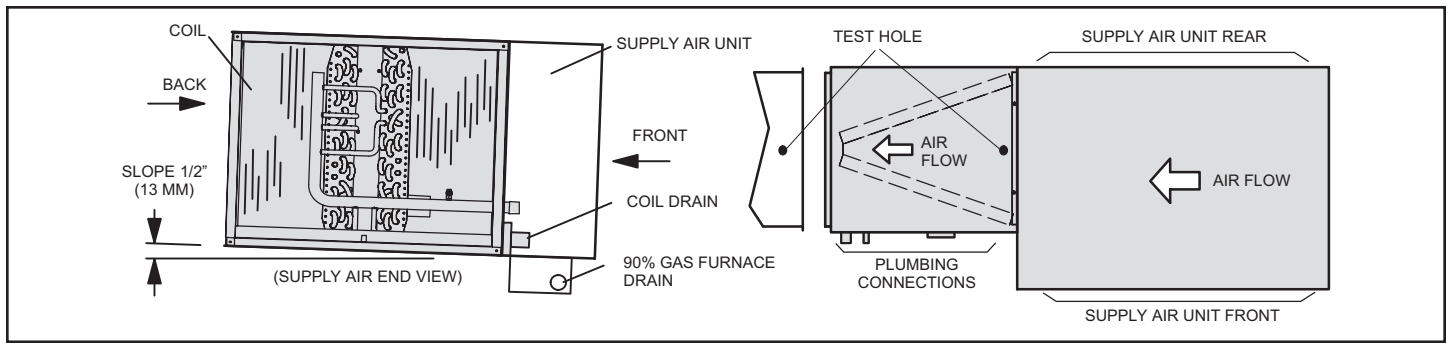
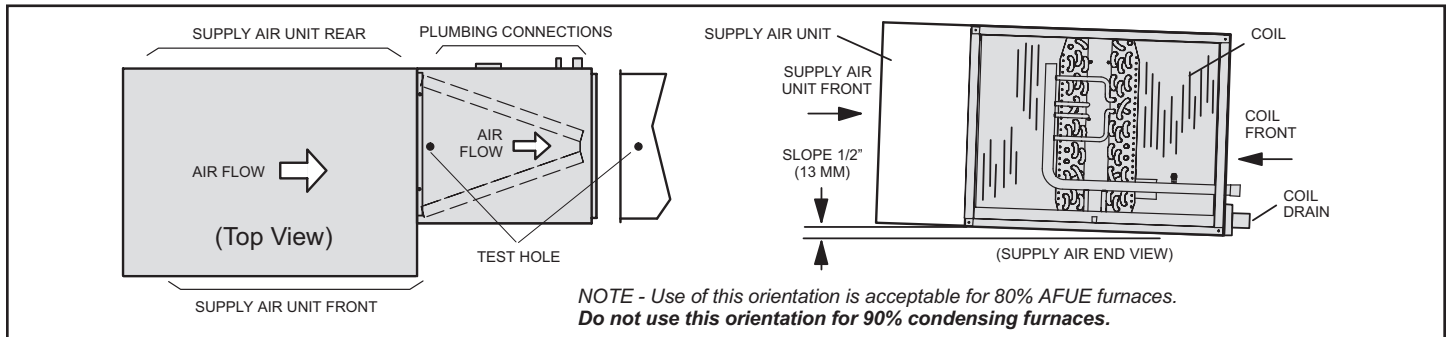

Figure 3. Left-Hand Air Discharge
Figure 4. Right-Hand Air Discharge
1. **Left-Hand and Right-Hand Discharge** — The coil must have a 1/2" slope from the rear of the cabinet to the drain. Position the coil adjacent to the furnace cabinet and align the six screw clearance holes in the coil casing with the furnace engagement holes. Use six field-provided #8 X 1" screws to secure the coil casing to the furnace (see Figure 3 and Figure 4).